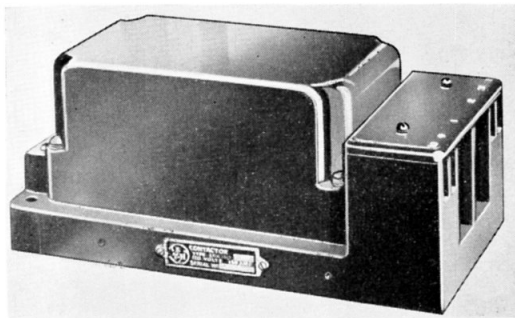

Fig. 1. Contactor, Type LDA250-A3/1
1. The contactor, Type LDA250-A3/1 (fig. 1) is a single-pole, single-throw contactor for the remote control of circuits carrying up to 250 amp. at a nominal voltage of 112 volts d.c. It incorporates an economy winding to give a reduced holding current.